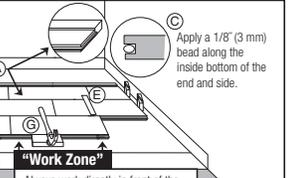

Figure 13
- If the wall is not straight, scribe the first board (Figure 13) as necessary to maintain alignment with the chalk line to maintain alignment with the wall.
- Align the first row with the wall using wedges to maintain a 1/2" (13 mm) expansion in place and to stabilize the product. If the wall is not straight, scribe the first board (Figure 13) as necessary to maintain alignment with the chalk line.